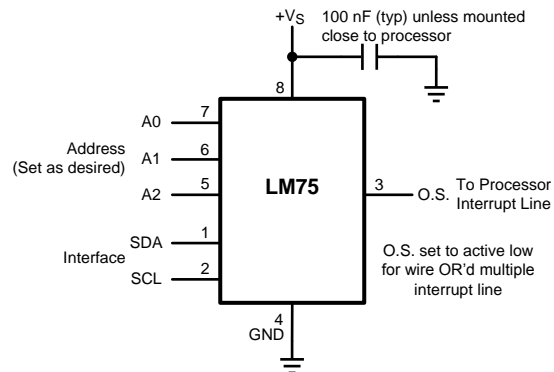

**Figure 2. SOIC-8 and VSSOP-8 Packages**
- (1) LM75A θJA (thermal resistance, junction-to-ambient) when attached to a printed circuit board with 2oz. foil similar to the one shown in Figure 2 is summarized in the table below the Operating Ratings table.
- (2) Reflow temperature profiles are different for lead-free and non-lead-free packages.